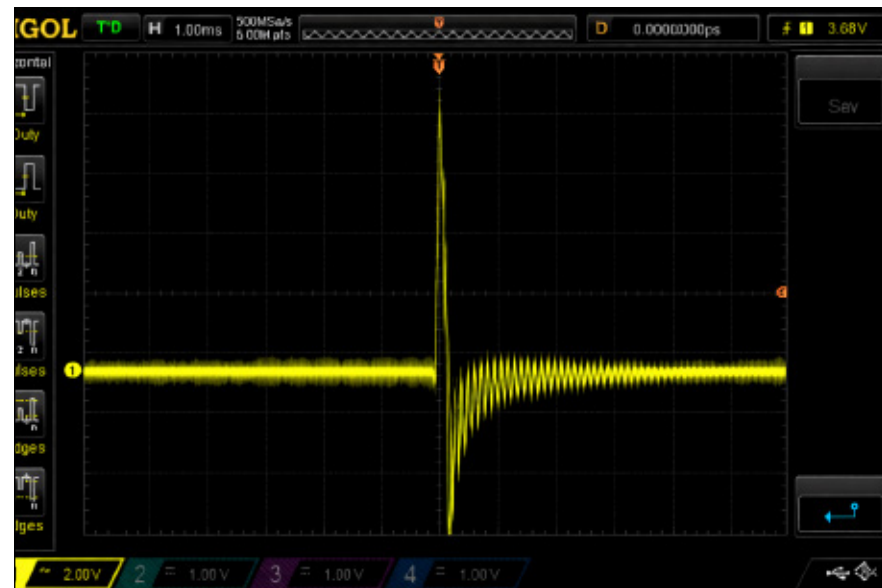
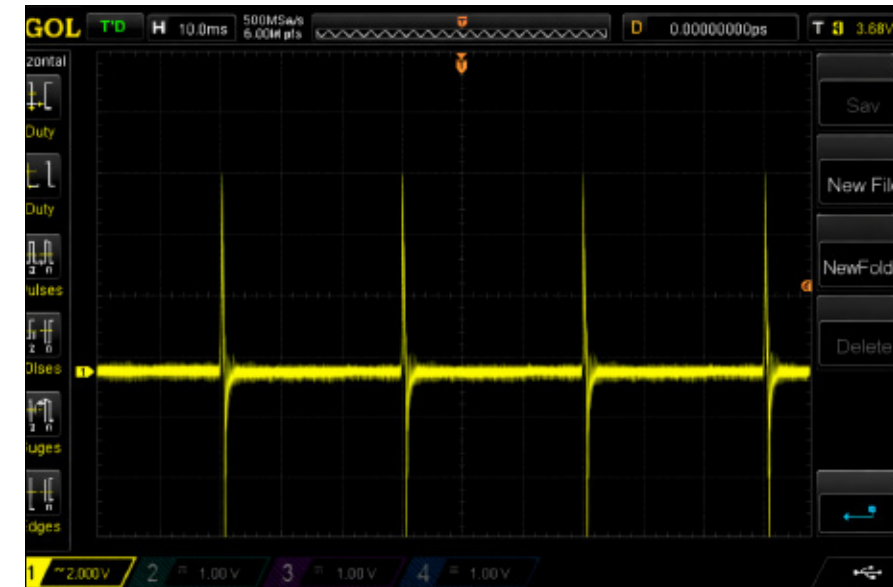

Figure 14
Figure 15
- See example time spectrum waveforms (*Figure 14* and *Figure 15*).
- *Figure 14* shows a single bearing fault event at high time resolution. The waveform consists of a sharp impulse followed by a decaying oscillation.
- *Figure 15* shows multiple bearing fault events over a longer time scale. Each impulse corresponds to a rolling element repeatedly passing over the same localized defect.